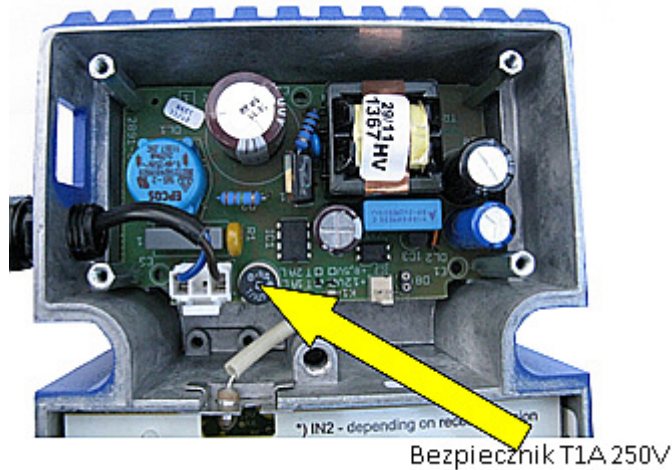

Fig. 8.14. Replacing a fuse in the MOB-729 - step 5.
- replace the fuse - see figure 8.14. Remember that the protection current type and value must be identical to those of the original fuse –T1A 250V.
- Fig. 8.14. Replacing a fuse in the MOB-729 - step 5.